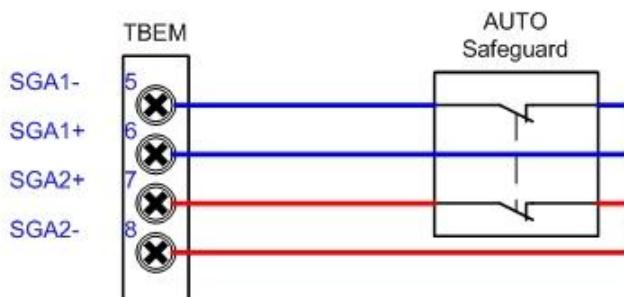
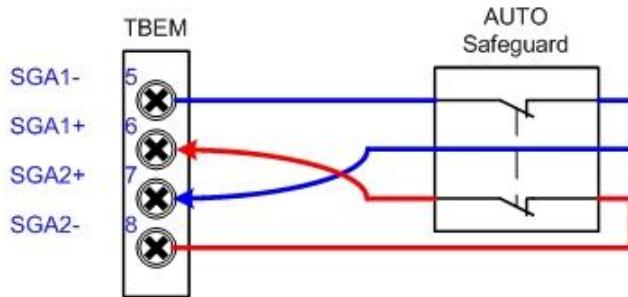

Figure 6.101 Good example of Safety Guard (Auto) wiring
Figure 6.102 Bad example of Safety Guard (Auto) wiring
For example, there is a case when the wiring of Safety guard (Auto) is faulty. There are two types of input method (point of contact input, P-common input) that enters safeguard to the System Board (BD530) and the point of contact input's wiring error may cause a problem. Proper wiring separates each safechain and connects the each end of point of contact (Figure 6.101) However if the chain's wiring is mixed and connected, the controller will not be able to detect the Safety guard's error due to an electronic error. (Figure 6.102). If the motor on is attempted at this time, not sufficient power supply for Magnetic contactor's saferelay operation will be supplied and it will generate E0140 (MSPR operation error)
- Actions : Please modify the wiring of Safety guard (Auto) correctly (Figure 6.102)